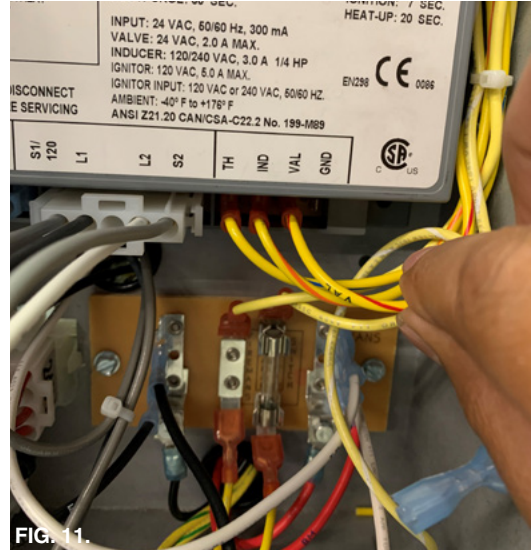

FIG. 11.
10. The new ICM does not have a 240-spade terminal; this connection is now in the middle of the Molex connector. The wire adapter has a cable coming out of the Molex that needs to be connected to the 240 gray cable as show in Fig. 11.
10. Connect the Red/yellow wire to VAL ¼" tab at the ICM, as shown in Fig. 11.